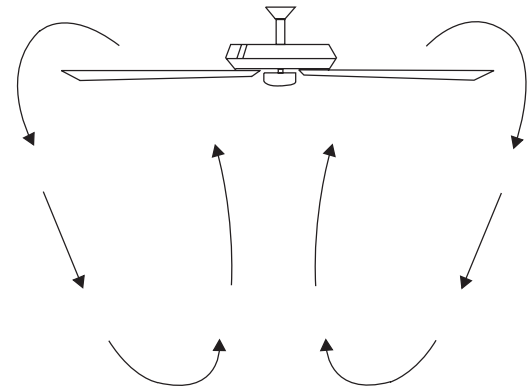

Fig. 33
**Cool Weather Operation:** Reverse (clockwise). An upward airflow moves warm air off the ceiling areas (Fig. 33). This allows you to set your heating unit on a cooler setting without affecting your general comfort.